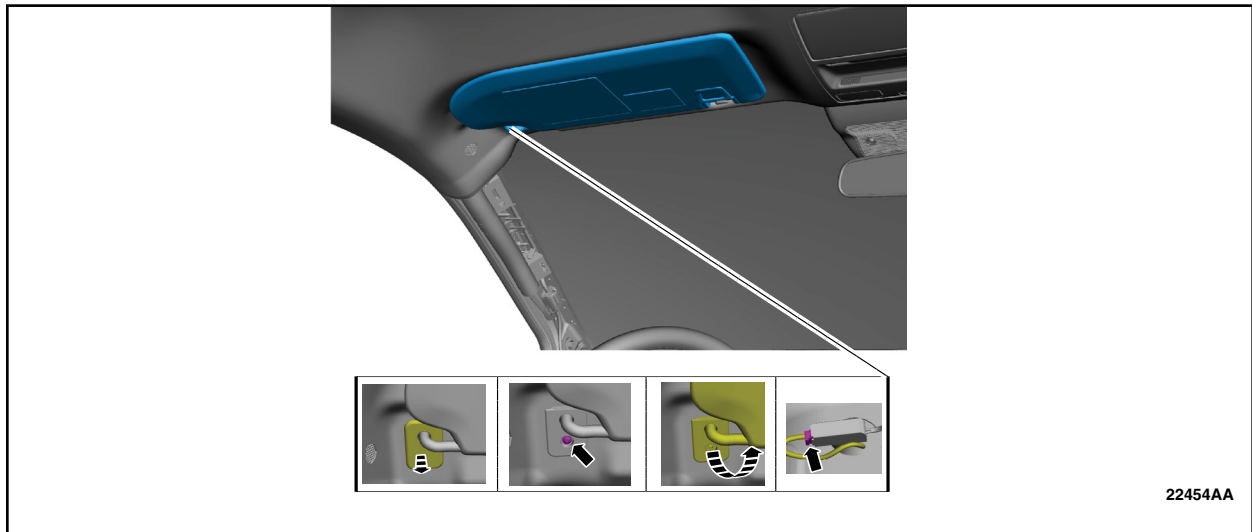

FIGURE 9
12. On both sides position the sun visor bolt cover aside, remove the sun visor bolt, rotate the sun visor end down and rearward to remove from headliner, if equipped disconnect the sun visor electrical connector and remove the sun visor. See Figure 9.